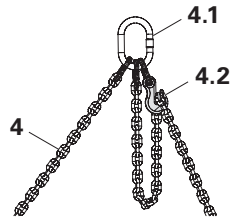

Fig. 19
1. Release chain shortener (4.2) on the crane lifting gear (4). (Fig. 19)